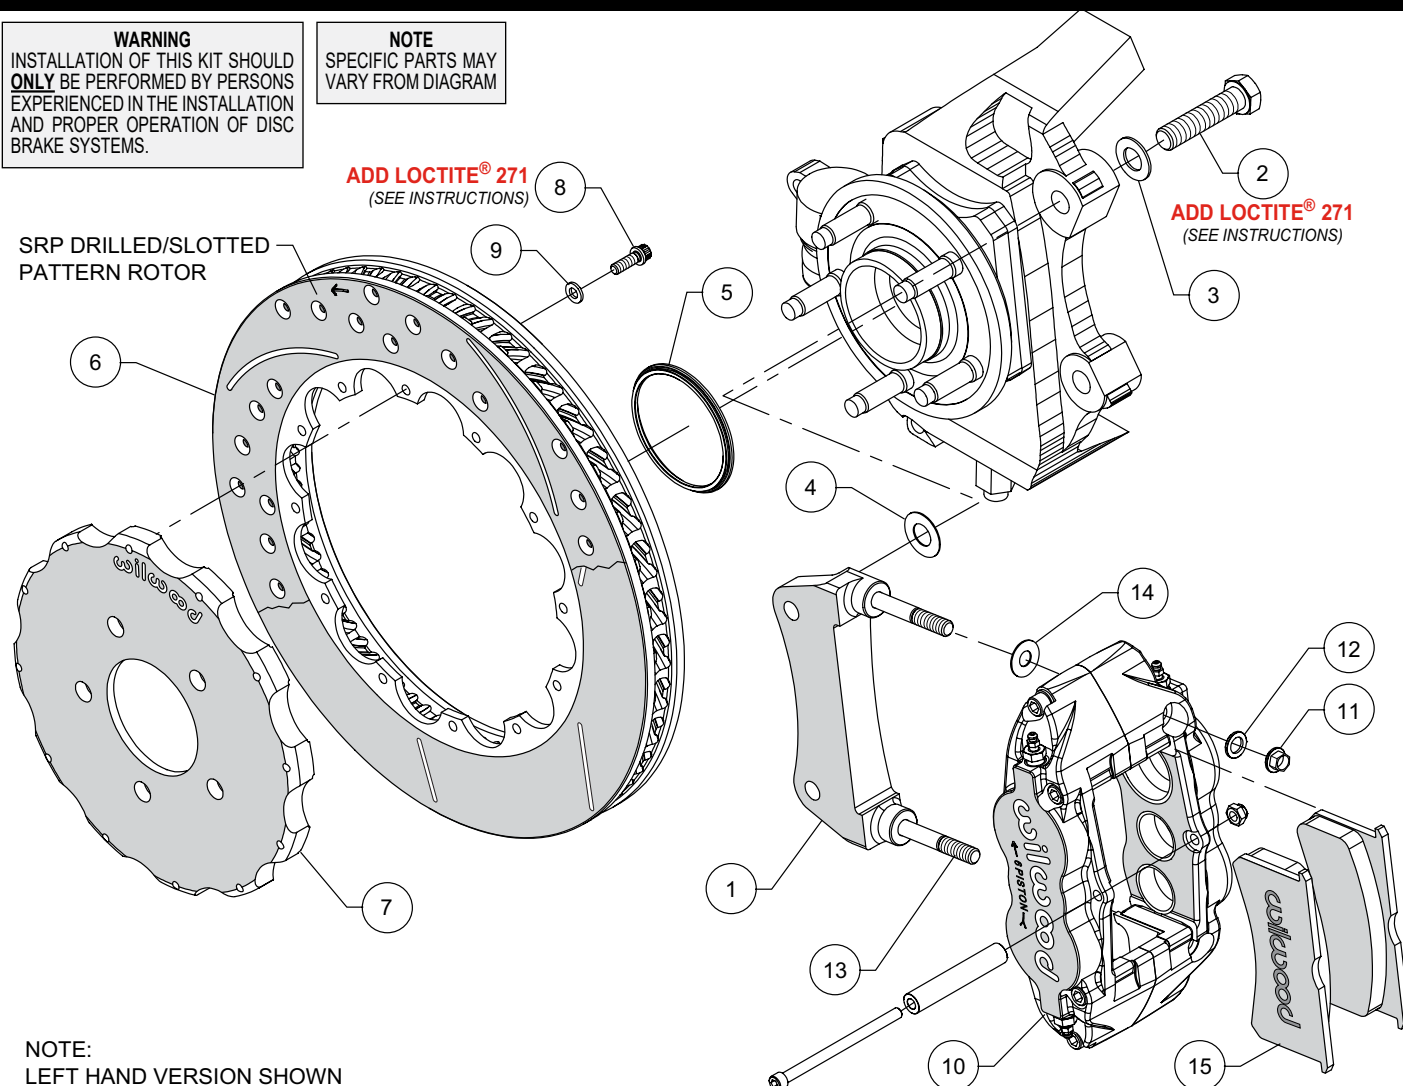
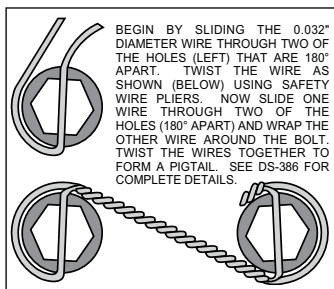

Figure 1. Typical Installation Configuration
Figure 3. Safety Wire Diagram
Assembly Instructions (numbers in parenthesis refer to the parts list and Figure 1 on the preceding pages):
- The caliper mount bracket (1) should initially be installed with clean, dry threads on the mounting bolts. Orient the bracket as shown in Figure 1 and Photo 1, and install using bolts (2) and washers (3). Initially place one .029 thick shim (4) on each bolt between the bracket and upright, Figure 1. Temporarily tighten the mounting bolts. **NOTE:** *The bracket must fit squarely against the mounting points on the upright.* Inspect for interference from casting irregularities, machining ridges, burrs, etc. Later, after the caliper alignment has been checked, the mount bolts will be secured using red *Loctite*® 271.
- Orient the rotor (6) and the hat (7) as shown in Figure 1 and Photo 2. Attach rotor to hat using bolts (8) and washers (9). Apply red *Loctite*® 271 to the bolt threads and torque to 155 in-lb using a criss-cross pattern. For an added measure of security, the bolts may be safety wired using standard 0.032 inch diameter stainless steel safety wire as shown in Figure 3. Please refer to Wilwood's data sheet DS-386 (available at www.wilwood.com/Pdf/DataSheets/ds386.pdf) for complete safety wire installation instructions.
- **NOTE:** *This kit contains distinct right and left hand calipers that must be mounted in a specific direction, as described below.* Initially place one .035" thick shim (14) on each stud (13) between the caliper and the bracket, as shown in Figure 1 and Photo 5. Mount the caliper (10) onto the bracket (1) using lock nuts (11) and washers (12), Figure 1. Ensure that the caliper is mounted so the largest pistons are at the rotor exit end of the caliper, in relation to the direction of rotor rotation. Temporarily tighten the lock nuts and view the rotor through the top opening of the caliper. The rotor should be centered in the caliper, Photo 6. If not, adjust by adding or subtracting shims (4) between the bracket and the upright. Always use the same amount of shims on each of the two mounting bolts. Once the caliper alignment is correct, remove the bracket mounting bolts (2) one at a time, apply red *Loctite*® 271 to the threads, and torque to 105 ft-lbs.